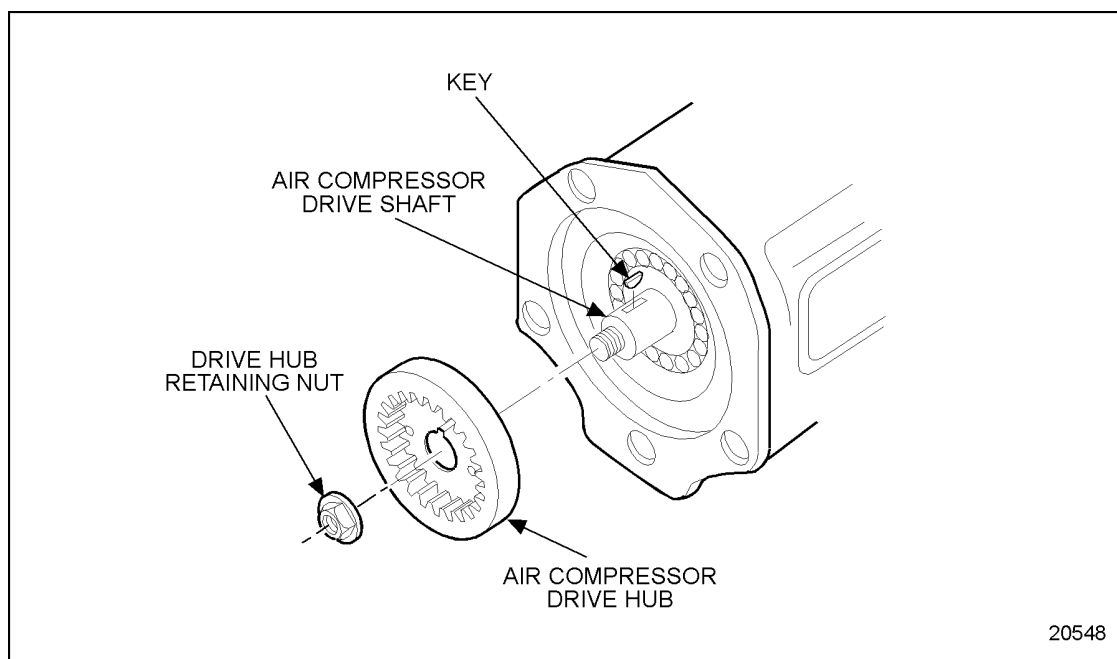

Figure 10-9 Air Compressor Drive Hub Assembly
2. Install the hub to the shaft as far as it will go by hand. Do not cock or jam the hub. See Figure 10-9.